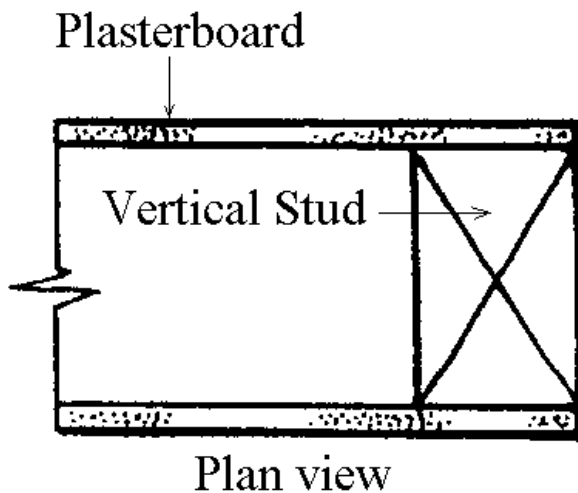

Fig.3
11. Complete figure 3 to show the finishes, including lining, around a doorway opening in a stud partition.